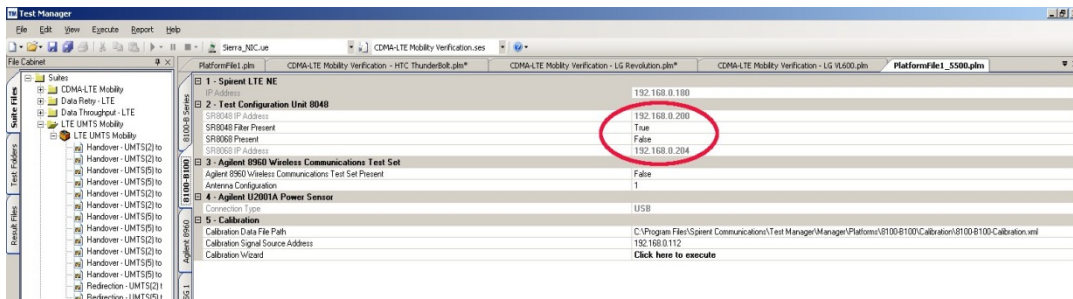

Figure 3-9: SR8048 Test Configuration Options
- Configure the SR8048 Test Configuration options for the system, as shown in Figure 3-9.